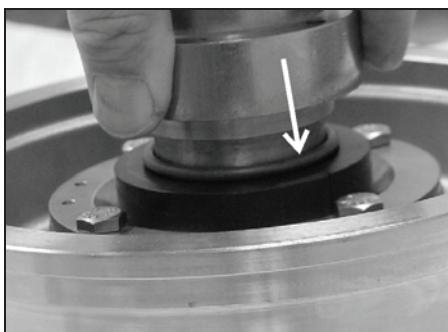

Figure 31 - Installing o-ring Using the Spring Retainer.
3. Lubricate and slide the seal o-ring onto the impeller shaft. (Use the spring retainer as a tool to push the o-ring into the rotary seal). See Figure 31.